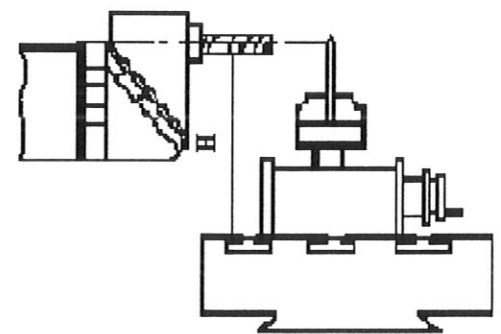

Fig.37
10.3 If the work-piece that is going to be milled is in a high position, you can adjust the milling head to the position showed in fig.37, and use a short tool holder